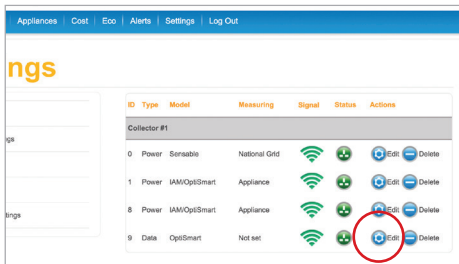

fig.24
4. The Meter Sensor will show up as two Sensors in the list, find ID 9 and click Edit (fig.24).